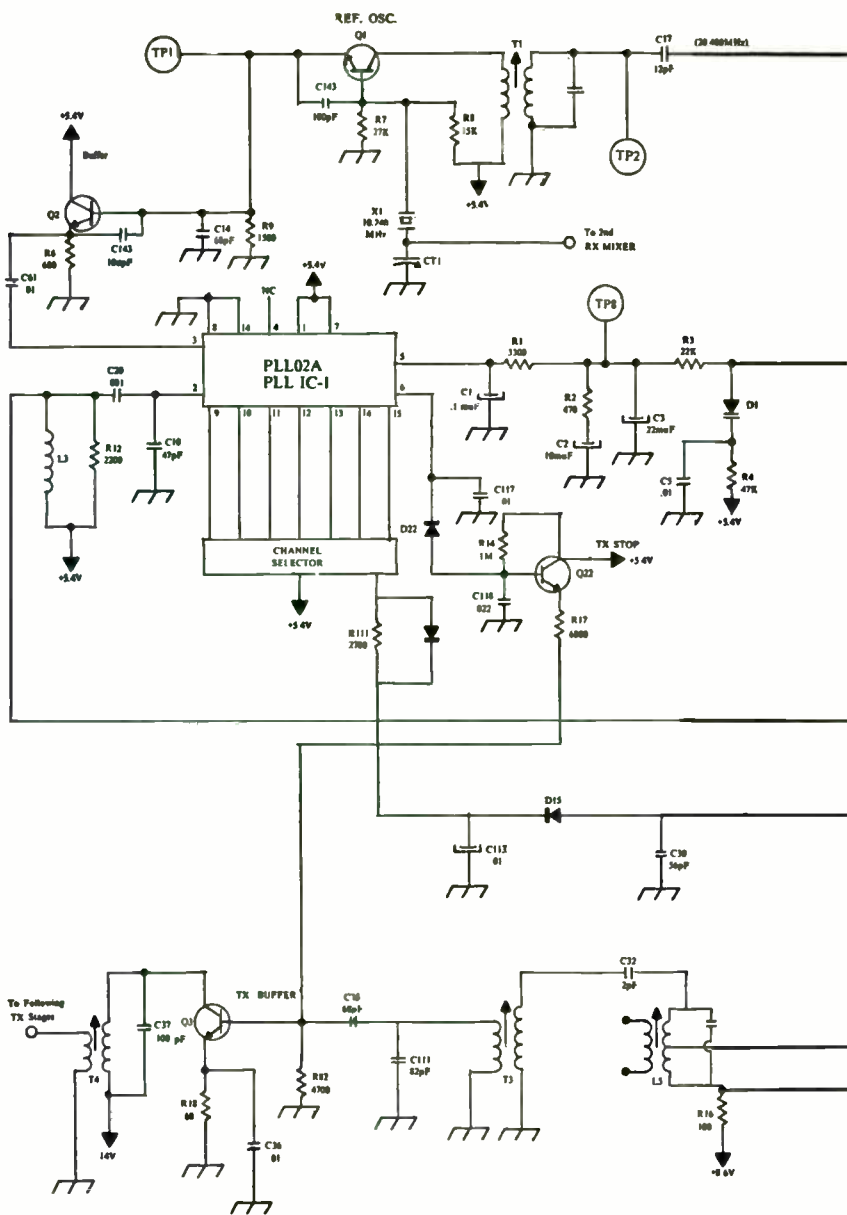

Fig. 5-6. Midland 77-830 PLL synthesizer.
The Midland model 77-830 CB radio is shown in Fig. 5-4. This is a 40-channel CB set, one of many which used the PLL02A digital PLL IC. The block diagram of the PLL section of the transceiver is shown in Fig. 5-5. The full schematic of the PLL synthesizer is shown in Fig. 5-6.
Look at the PLL schematic of Fig. 5-6. At IC2, the VCO and mixer, a 220-pF capacitor (C7) connects between pins 1 and 2 of the IC. The capacitor provides feedback for the voltage-controlled oscillator. The resonant frequency of the VCO is determined by varactor diode D1 and coil L1 with its parallel capacitor. Also, capacitors C4, C6, C7, and C8 affect the resonant frequency to some extent. Notice that the cathode of the varactor diode is connected to the 5.4-volt supply through a 47K ohm resistor, R4. The anode of the varactor diode connects to the VCO control line through resistors R3 and R1. The voltage on the control line is lower than the voltage on the cathode of the varactor. This reverse biases the varactor. In most of the VCOs used in PLL applications, the anode of the varactor connects to ground and the cathode connects to the VCO control line. In this application, however, the anode connects to the control line and the cathode is placed at rf ground by the 0.01- μ F capacitor, C5. The VCO operates in the range of 17.180 MHz for channel 1 to 17.620 MHz
The transmit oscillator and mixer (IC3) uses the same type of IC as the VCO and mixer. In Fig. 5-6, the oscillator frequency is determined by crystal X2. This crystal sets the oscillator frequency at 10.695 MHz. Capacitor C26, at 560 pF, provides feedback for the oscillator. The sum frequency signal from the VCO and mixer is applied to IC3 at pin 4. This frequency at pin 4 ranges from 37.660 MHz for channel 1 to 38.100 MHz for channel 40. Inside IC3 this 37-MHz signal at pin 4 is mixed with the 10.695-MHz oscillator signal. The difference of the two frequencies appears at pin 9 of IC3. The frequency at pin 9 ranges from 26.965 MHz for channel 1 to 27.405 MHz for channel 40. This signal is then fed to the following transmitter stages for amplification.
The PLL02A, IC1 in Fig. 5-6, performs several functions. First, let's take a look at the programming used in this particular application. The programming pins are 7, 8, 9, 10, 11, 12, 13, 14, and 15. Table 5-1 shows the weight of each programming pin. In Fig. 5-6, pin 7 is connected to the supply voltage. This keeps it at the binary 1 level at all times, regardless of the channel selector position. Thus, the weight of pin 7 (256) will always be used. Also, pin 8 is connected directly to ground, so this pin remains at the binary 0 level at all times. This means that its weight of 128 will never be used in determining the N divisor. All of the other programming pins (9 through 15) are connected to the channel selector switch. The binary level applied to any of pins 9 through 15 depends upon the position of the channel selector. There is a different combination for each channel (see Table 5-8).
Let's get back to the discussion on the PLL IC stage, IC1, in the schematic of Fig. 5-6. You can see on the schematic that the